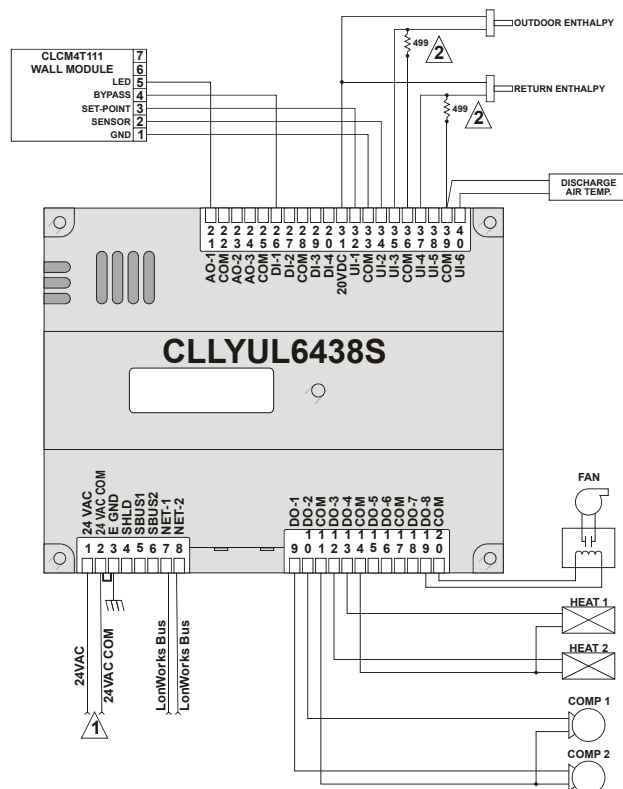

Fig. 18. Controller wiring diagram (CLLYUL1012S, CLLYUL4024S, and CLLYUL6438S shown) for typical AHU application
- Typical controller wiring for AHU application (see Fig. 18).